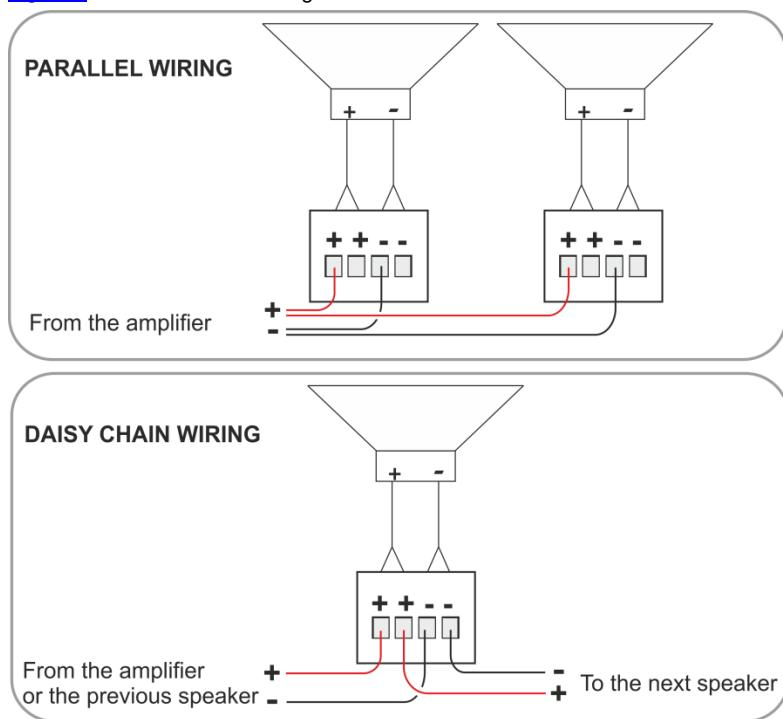

Figure 3: Yarden 6-C Schematic Diagram
Figure 3 shows a schematic diagram of the **Yarden 6-C**:
- **Wiring in parallel:** connect the amplifier directly to each of the speakers. When one input connector is removed, subsequent speakers will remain connected (see Figure 3)
- **Daisy-chaining:** connect the wire pair (+ and -) of the speaker to the subsequent speaker + and -. When one input connector is removed, subsequent speakers will be disconnected (see Figure 3)